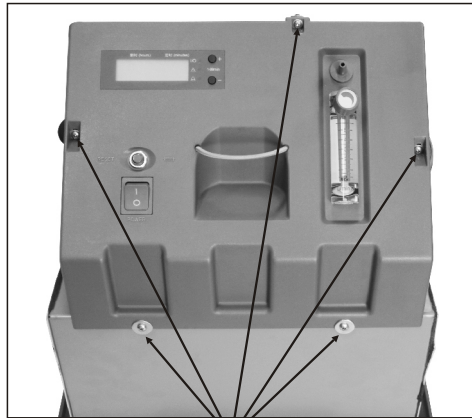

Figure 13
- Lift the panel up. (Figure 13)